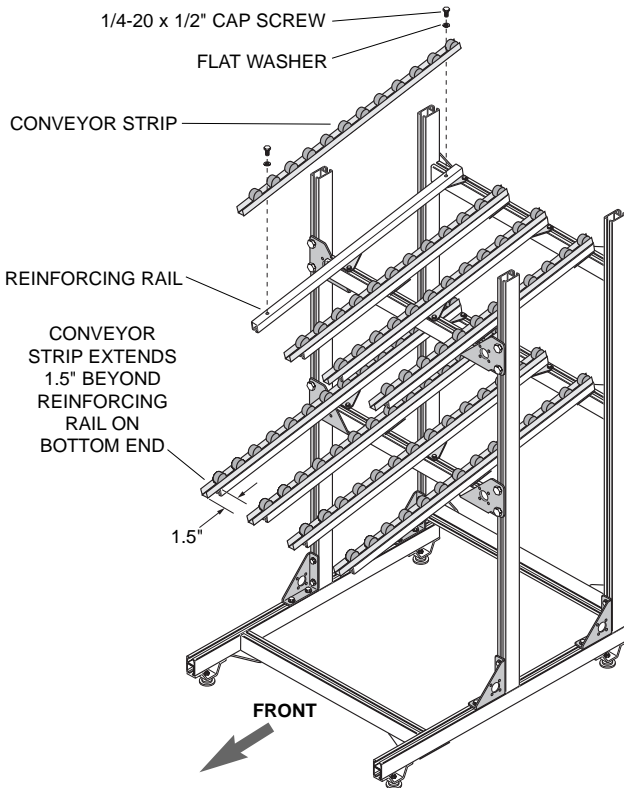

Figure 11.
13. Install conveyor strips on reinforcing rails using 1/4-20 x 1/2" hex head cap screws and flat washers. Insert screws through slots in conveyor and into tapped holes in rails. Back (top) ends of conveyor strip and rail should be flush. Lower end of conveyor should extend 1.5" beyond end of reinforcing rail (Fig. 11).